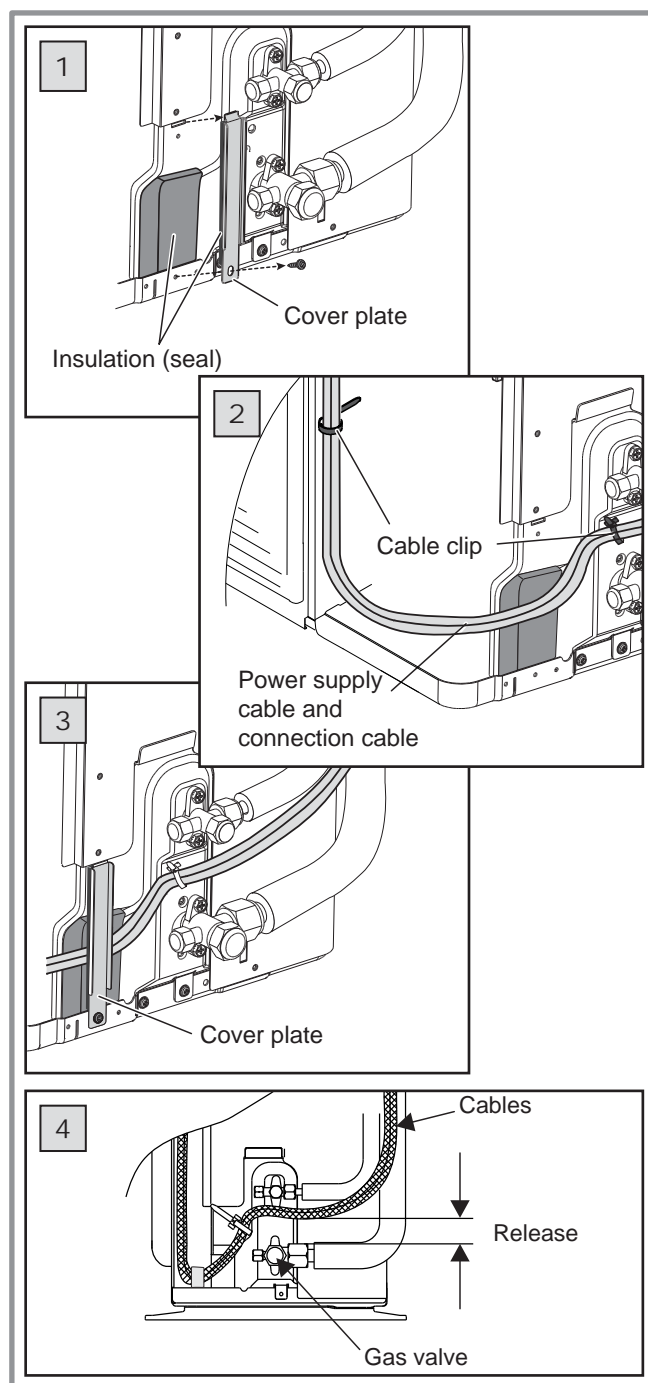

figure 27 - Finalisation of connection to outside unit
- Use the mounting plate to hold the cables against the insulating plate (ref. 1 to 3, figure 27). **Secure cables so that they are not in contact with pipes and valves** (ref. 4).